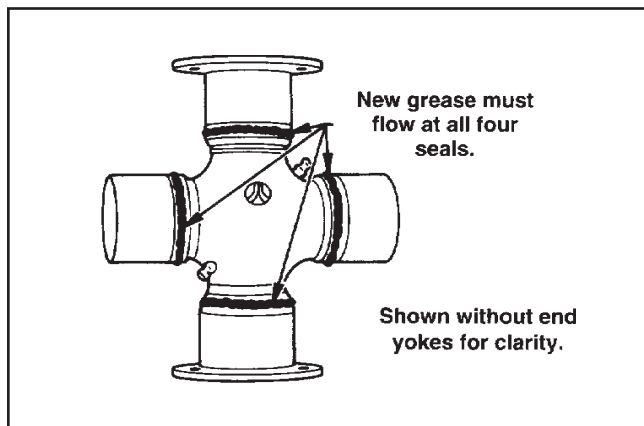

Figure 4 - Cross Assembly
1. After installation into end yokes, lubricate the cross assemblies at the grease fitting until grease flows from the bearing cup seals on all four trunnions (see to Figure 4). Refer to the Lumberjack or Carrydozer operator's manual for appropriate lubricant.